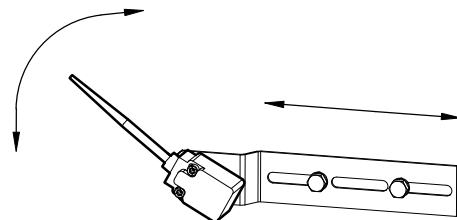
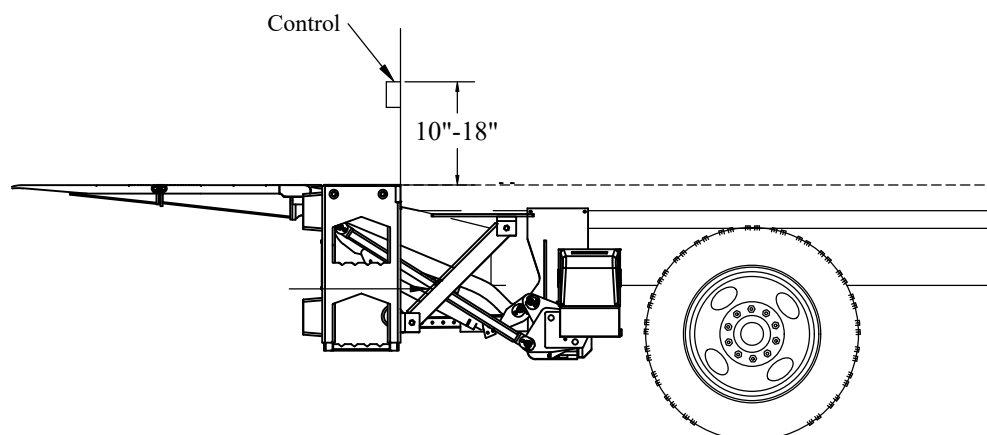

Figure 28: Mechanism Adjustment
Figure 29: Control Positioning.
7. **Adjust** the position of the Stowage Stop mechanism, by loosening one of the M5 bolts, to where the liftgate power shuts off before hitting the deck extension (Figure 28).
3. **Bolt** the control to the body, on the passenger side (Figure 29).
14. **Connect** the circuit breaker and battery as outlined in the Tommy Gate Recommended Electrical Wiring Guidelines and wiring diagram (Figure 28 or Figure 29).